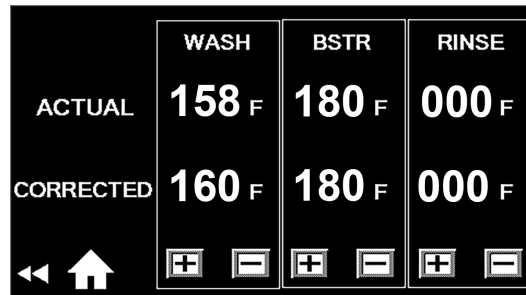

Fig. 71 - Only a technician can correct temperatures
2. Only a technician can correct temperatures, (Fig. 71).